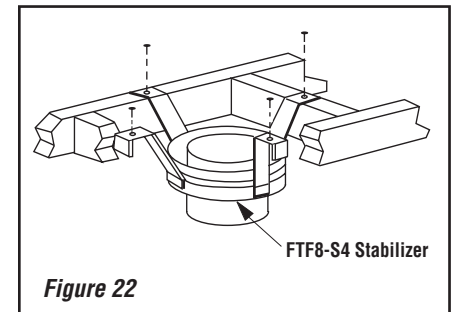

Figure 22
Install the Model FTF8-S4 stabilizer by fitting inner section down into respective section of proceeding flue pipe and locking outer stabilizer section into place over the outer chimney pipe. Position for proper clearance through framed opening and nail straps securely (under tension in "shear") into place on framing. Use 8d nails. Attach successive lengths of chimney pipe directly to stabilizer using same techniques as described in Step 4 (Figure 22).
Step 1. Use Offset Chart to determine amount of horizontal offset (A) and height (B) for various chimney section assemblies.
Step 3. Use Elevation Chart as job estimator only. Add necessary firestop spacers and stabilizers as required. Firestop spacers must be used as shown in **Figure 29** and stabilizers as shown in **Figure 22**.